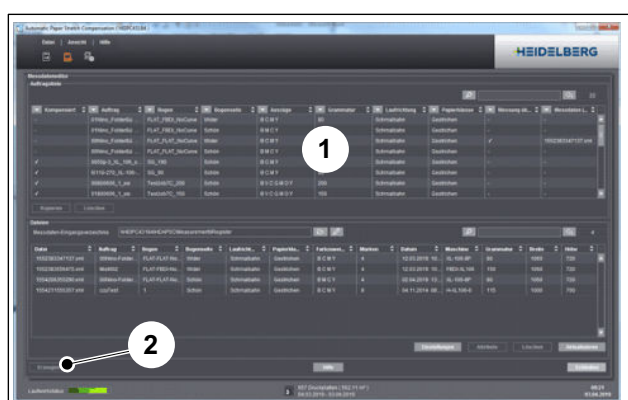

Fig. 15 Measurement editor, job list
The job list of the measurement editor (Fig. 15) is displayed.
3. Select a job from the **Job List** (Fig. 15/1).
4. Click **Create** (Fig. 15/3).